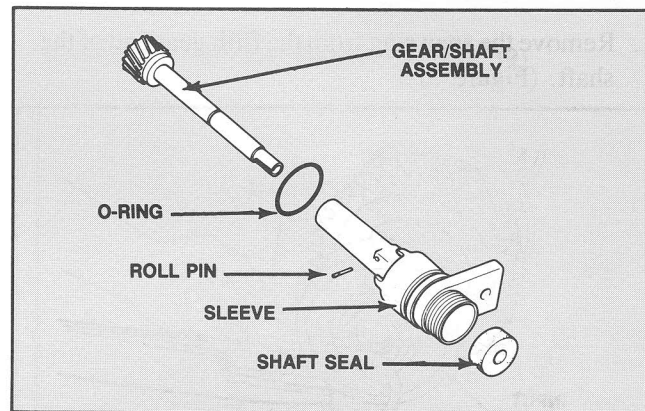

Figure 78 Speedometer Gear Disassembled View
1. Remove the o-ring from the speedometer gear sleeve. (Figure 78).